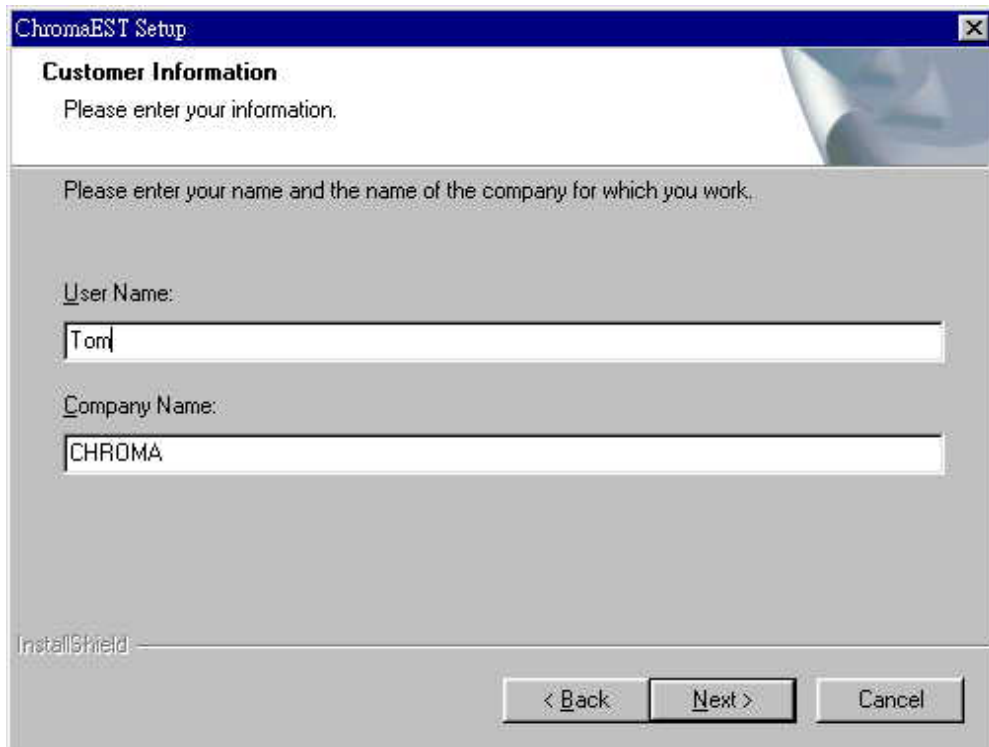

Figure 2-4 Chroma EST Setup Screen 3
3. Press **Yes** button, the screen shows customer information about entering user's name and company. (Figure 2-4)